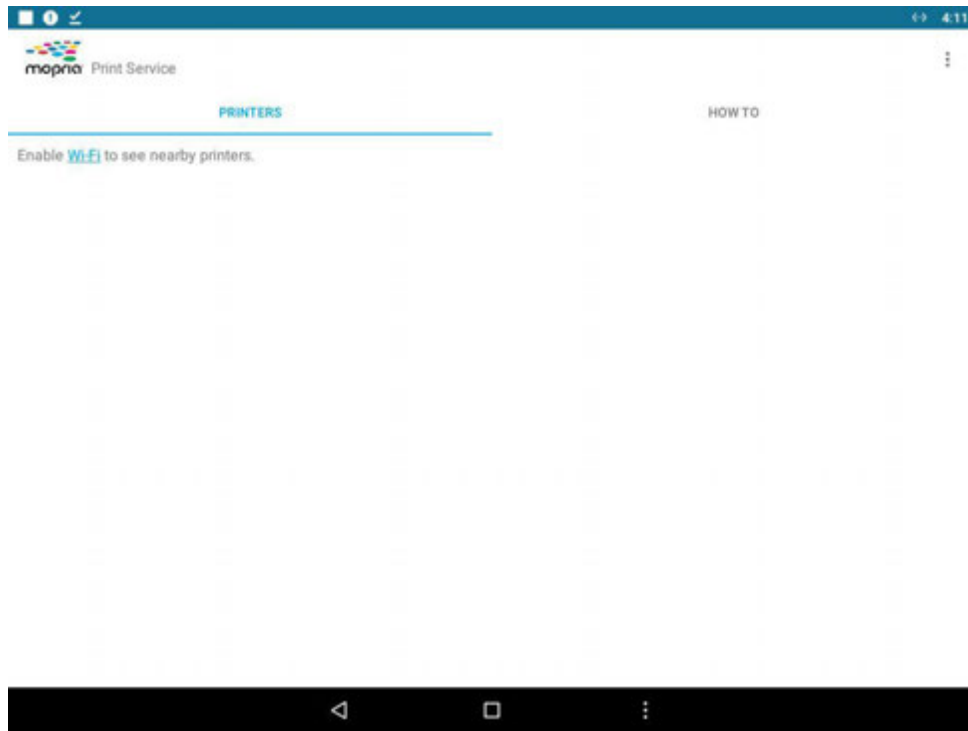

Figure 8
4. After entering the printing software interface, click "Enable Wi-Fi to see nearby printers" to connect the printer's Wi-Fi, as shown in Figure 8. The Wi-Fi connection is successful, as shown in Figure 9.